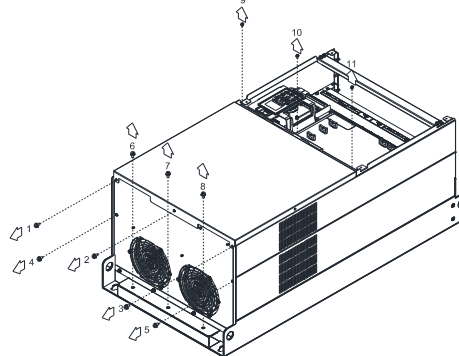

Figure 2
3. For 9–10 shown in the figure 2: Loosen the screws